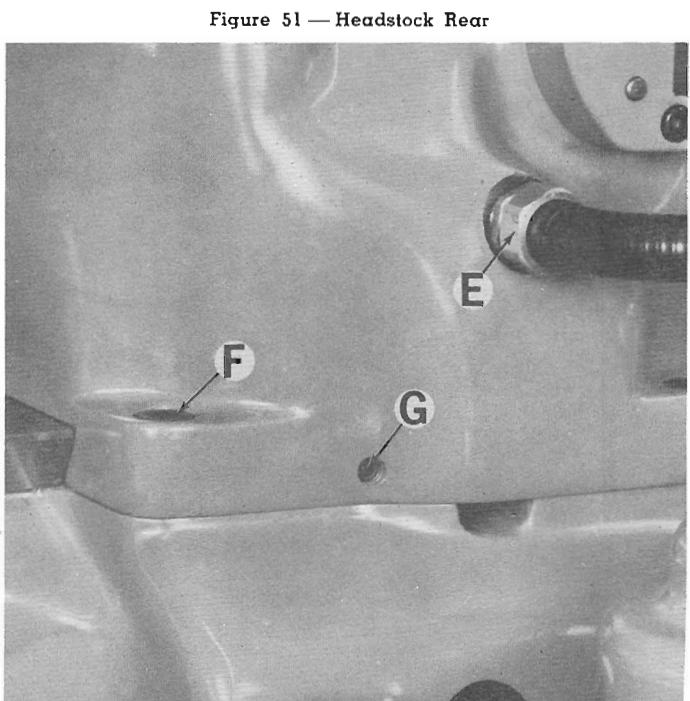

Figure 51 — Headstock Rear
8. Remove four screws "F", Figure 51.
3. Replace locking plug "H", Figure 52. Use care that locking plug angle matches dovetail. Replace and tighten set screw until snug. Replace lock screw "G", Figure 51.
4. Replace four screws "F", Figure 51. (65 foot pounds torque)